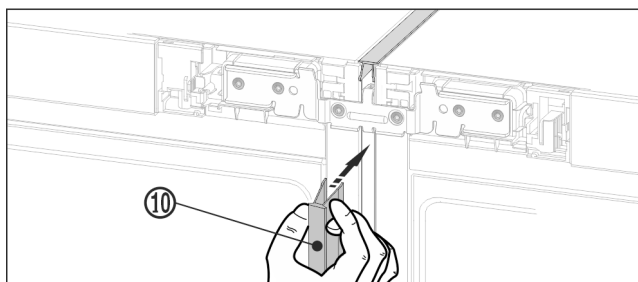

Fig. 21
- ▶ On the front press the long cover strip Fig. 21 (10) into the vertical gap. Ensure that the strip rests on the connecting plate.